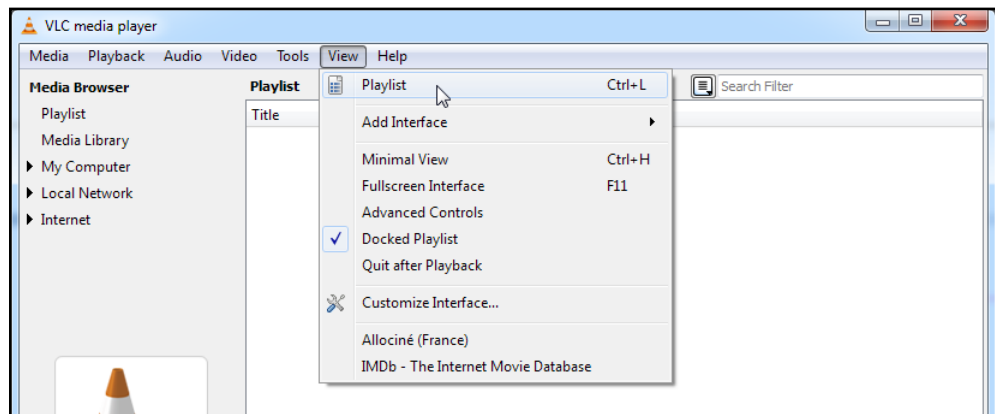

Figure 107. VLC Playlist
1. Open VLC. From the **View** menu, select **Playlist** (see figure 107).